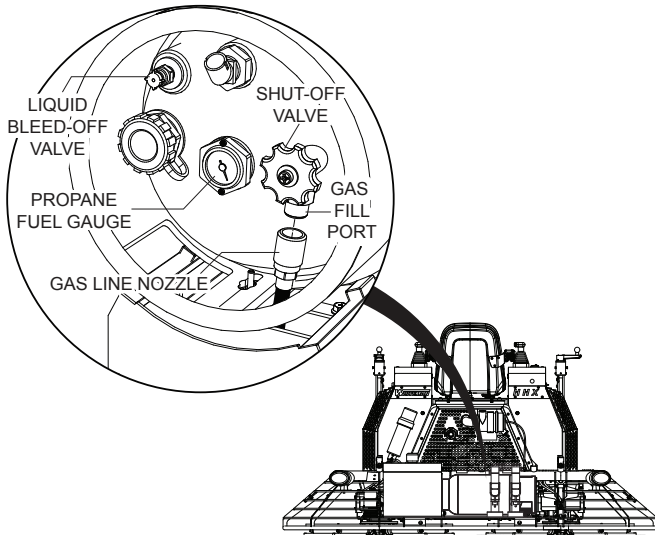

Figure 16. Propane Tank Shut-Off Valve
1. Turn the shutoff valve knob (Figure 16) clockwise to release propane gas.